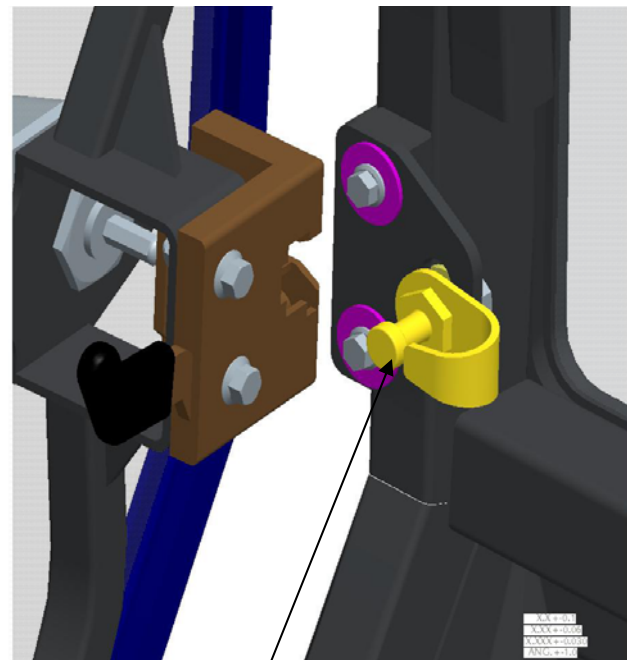

Figure 5.
6. Loosen striker pin on cab and gently close the door and see where the striker pin should be located to keep the door closed tight. Figure 5. Once located in it's proper location, tighten all hardware and then repeat steps 1 thru 6 for opposite side door.